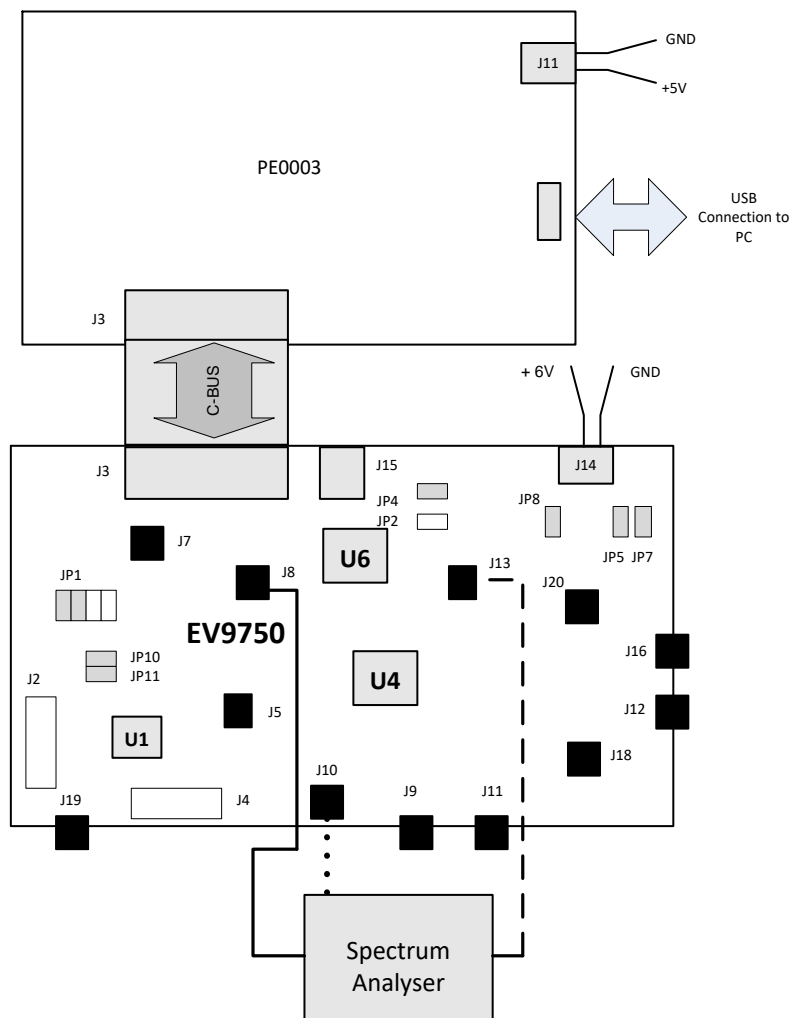

Figure 4 Typical PLL Evaluation Connections for EV9750
1. Connect the boards as shown in Figure 4.